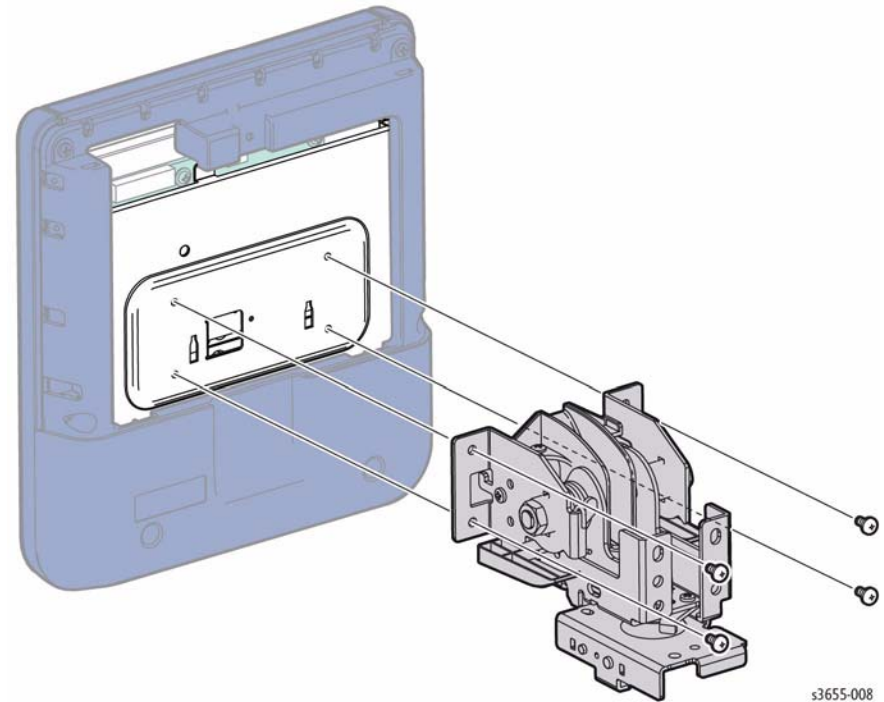

Figure 2 Remove the UI Hinge Assembly
5. Refer to Figure 2 to locate and remove 4 screws (silver, M3, 6mm) that secure the Control Panel to the UI Hinge Assembly.